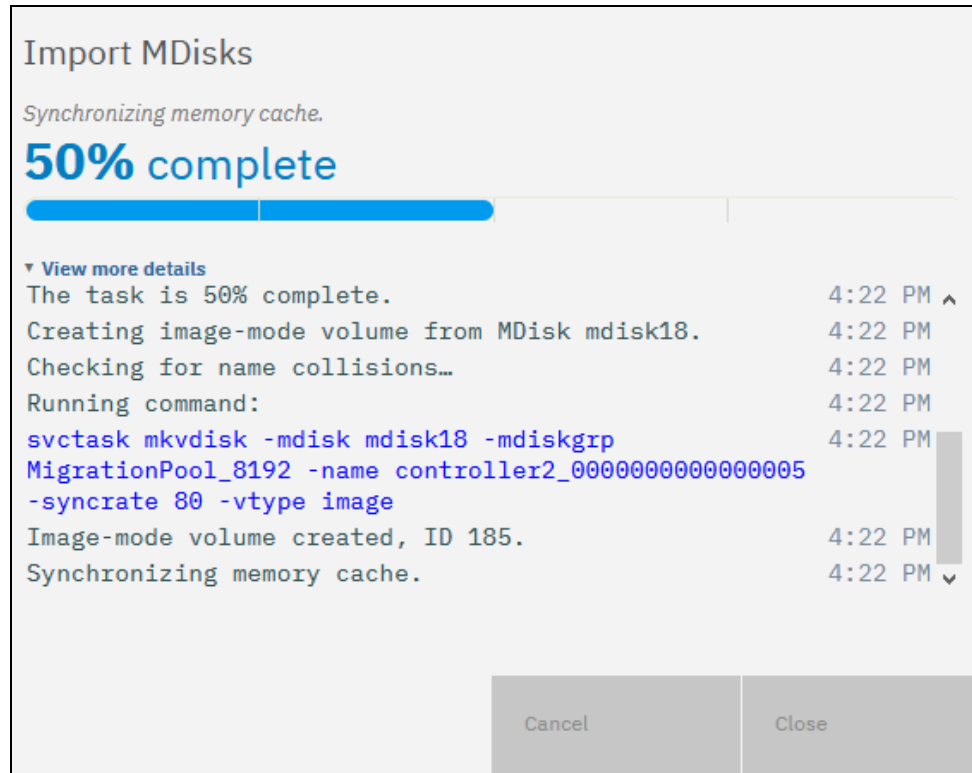

Figure 8-9 Storage Migration image mode volume creation detail
8. Click **Next** and wait for the MDisk to be imported. During this task, the IBM FlashSystem creates a new storage pool that is called MigrationPool_XXXX and adds the imported MDisk to the storage pool as image mode volumes with the default naming of {controller}_16digitSequenceNumber (controller2_0000000000000005)..., as shown in Figure 8-9.